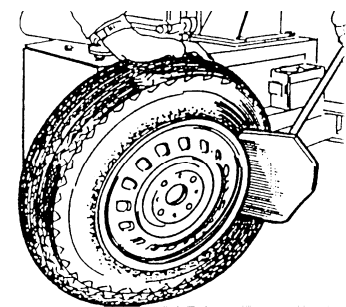

Fig 7
3) Open the bead breaker arm by hands by pushing it towards the outside, place the tyre against the rubber buffer. Bring the paddle against the bead about 10mm from the edge of the rim shown as Fig 7.